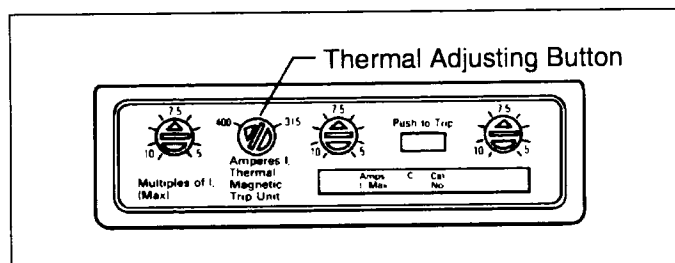

Fig. 2-5. Typical Trip Unit With Adjustable Thermal
**Adjustable Thermal:** Trip units having an adjustable thermal element can be adjusted within the range shown in Table 1-2 using a single adjusting button. (See Fig. 2-5.)
The magnetic element of each pole of the trip unit can be JT2225T adjusted by rotating the adjustment buttons on the front face of the trip unit with a screwdriver. The buttons have several settings as indicated on the nameplate with values in multiples of the trip unit ampere rating ( $I_n$ ) as shown in Fig. 2-5. To adjust the setting, rotate each button clockwise until arrow on button points to desired setting.
In some trip unit types, the thermal rating ( $I_n$ ) of the trip unit can be adjusted by a single button (See Fig. 2-5) within the ranges indicated in Table 1-2. To adjust the setting, rotate the thermal adjustment button until the arrow on the button points to desired setting.
2-11. Adjust thermal setting as required. (See Fig. 2-5.)